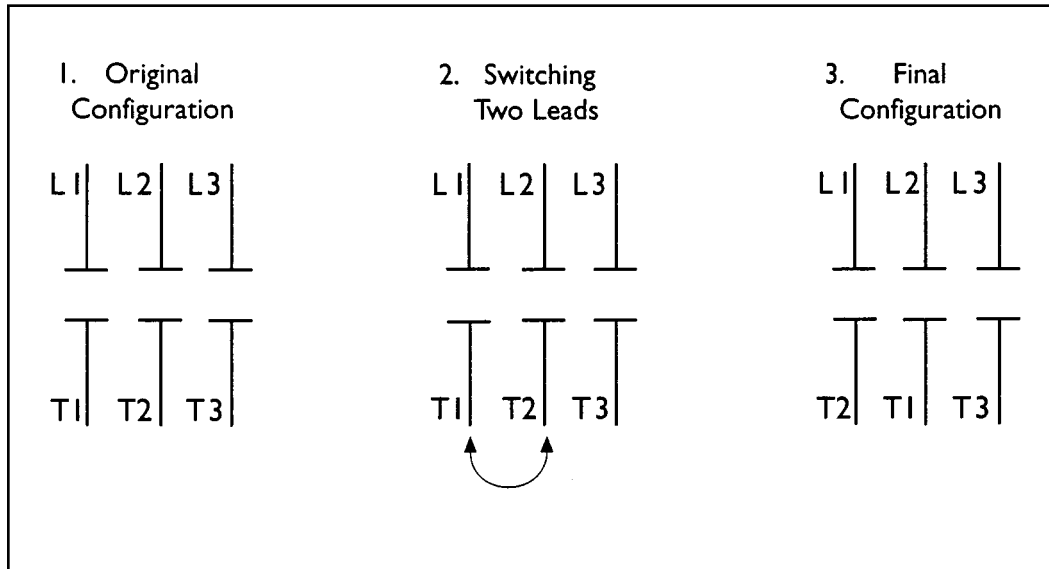

Figure 3.3
2. Apply power for ONE SECOND MAXIMUM to check the direction of motor shaft rotation. The motor shaft should turn in a clockwise direction as viewed from the motor end. The direction of rotation for three-phase motors may be reversed by interchanging any two (2) leads (Figure 3.3, Changing Motor Rotation).
- D. Compare the results observed. The wire connection that yielded the highest pressure and flow rate is the proper connection. Interchange the two leads only if necessary (Figure 3.3, Changing Motor Rotation).